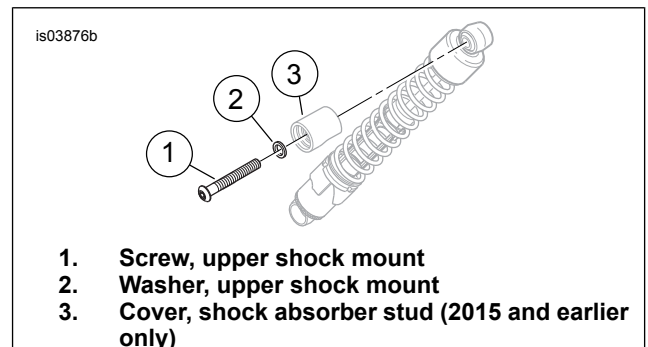

Figure 2. Rear Shock Absorber Upper Mount
2. See Figure 2. Remove the 1/2-13 bolt (1), washer (2) and shock absorber cover (3). Discard the bolt and cover, but retain the washer for later installation.